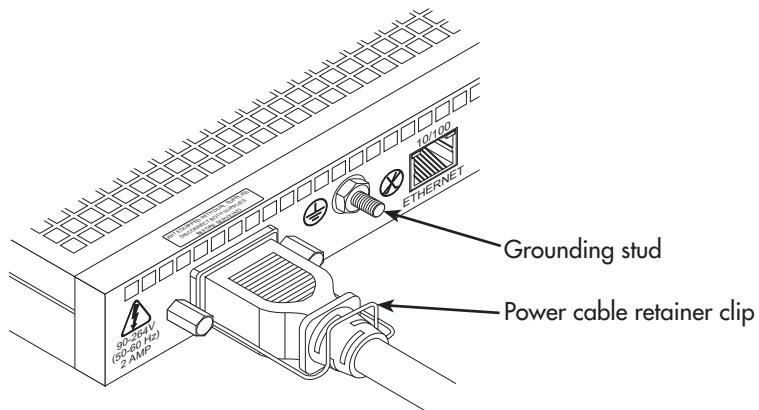

Figure 6. Power cable retainer clip
- Rotate the power cable retainer clip so it secures the power cable plug in the IEC-320 connector as shown in figure 6.
2. Install the ground wire between the grounding stud (see figure 6) and the grounding source.